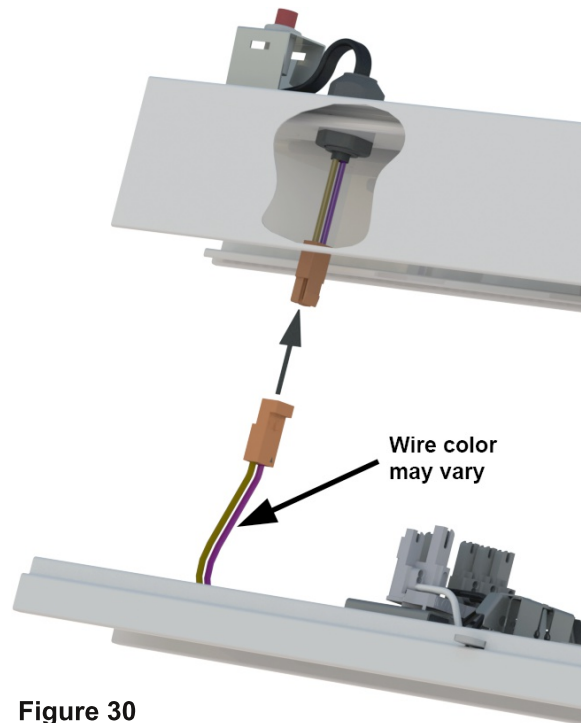

Figure 30
- Connect the Emergency Test Button wiring harness to the Emergency Battery wiring harness on the Light Fixture (Gear Tray) before installing the Light Fixture in the Trunk. See Figure 30.